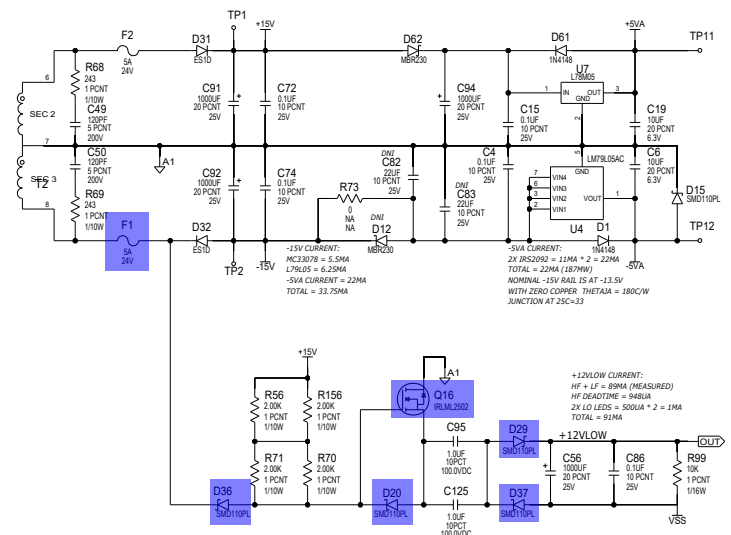

Figure 8.7.1 - Components to check if +12VLOW rail has failed
- SMD MOSFET Q16 could be the culprit. Q16 is located on the bottom side of the AMP/PSU board. Also check the Schottky diodes in the circuit as highlighted in Figure 8.7.1.